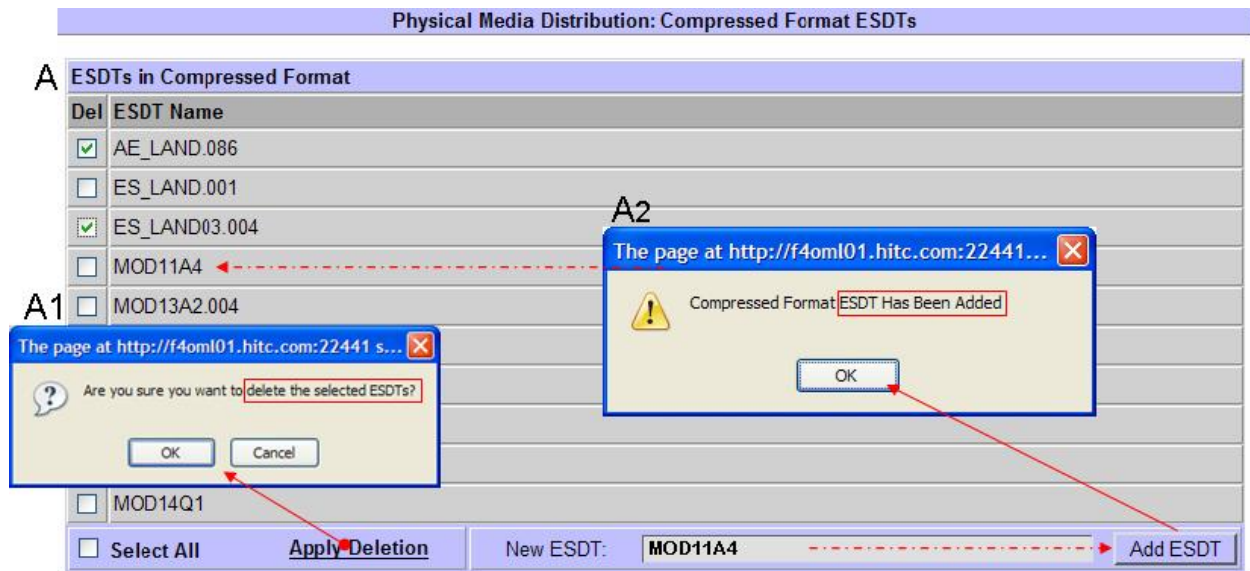

Figure 15.12-22. PMD Compressed Format ESDTs Page
- 2 Click **ESDT Configuration** submenu option to display its page (Figure 15.12-22, Frame A).
- The “**Compressed Format ESDT Has Been Added**” dialog box (Figure 15.12-22, Frame A2) appears.
- The “**Are you sure....delete the selected ESDT?**” dialog box (Figure 15.12-22, Frame A1) appears.